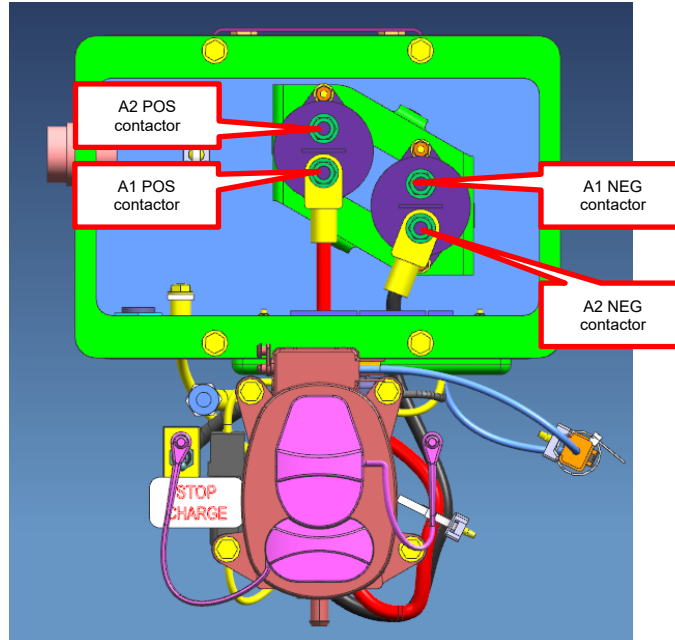

Figure 3 - Box 790772 with correct contactor orientation
- 4.3. Make sure that both contactors are oriented in the correct position according to Figure 3. The positive receptacle cable should connect to (A1+) of the positive contactor and (A2-) of the positive contactor should connect to cable going to the ESS system. The negative receptacle cable should connect to (A2-) of the negative contactor and (A1+) of the negative contactor should connect to the cable coming back from the ESS.
- 5.6. Connect the HV cable ring terminal to the contactor studs as shown in the figure 3